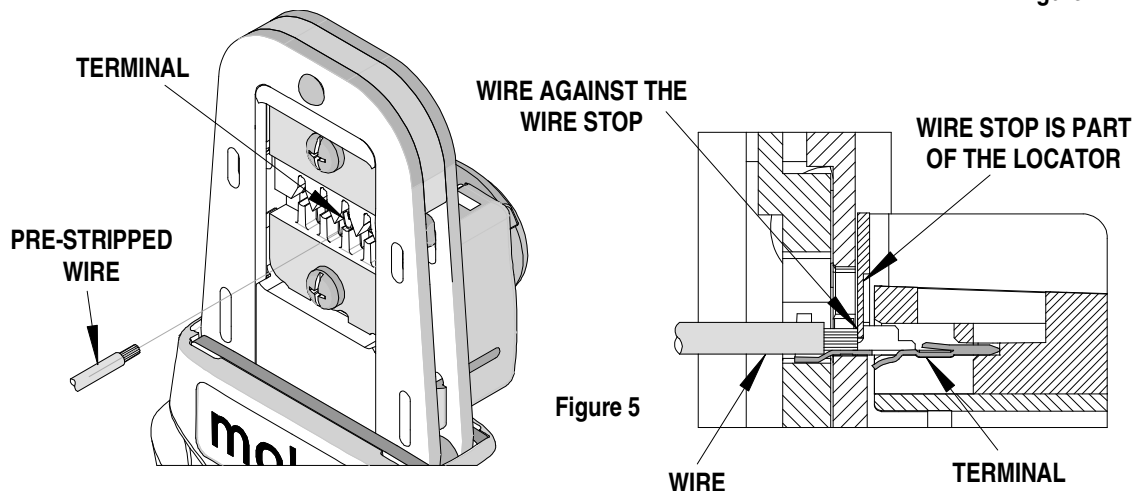

Figure 5
6. Insert the properly stripped wire through the terminal and against the wire stop. See Figure 5.